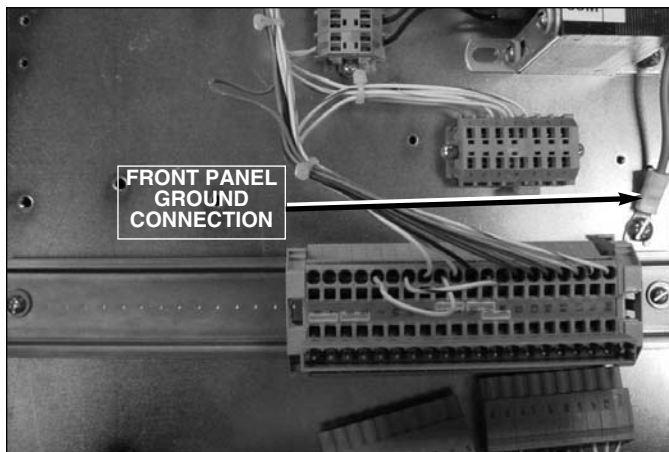

Figure 4.
6. Use a standard screwdriver, loosen and remove the screw fastening the control panel green ground wire to the back panel (See Figure 4).